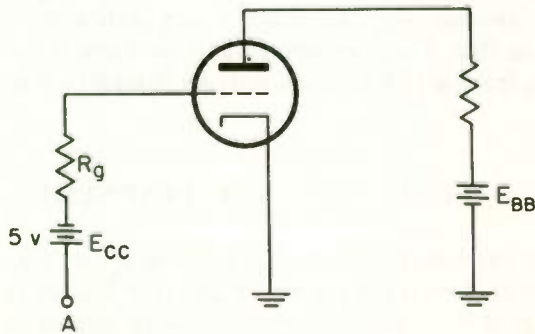

Fig. 33
4. The voltage across R_g in Fig. 33 is (a) _____ . Is the tube in Fig. 33 properly biased? (b) _____ .